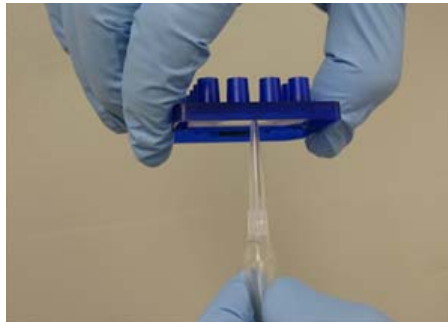

Figure 16. Removing an air bubble or clog by suctioning the sipper with a vacuum line
- b Suction the sipper with a vacuum line, as shown in Figure 16, until droplets of fluid flow out from the sipper. When suctioning the sipper, be careful not to bend or break the sipper. To facilitate this, cut the tip of the pipet to make a wider opening.